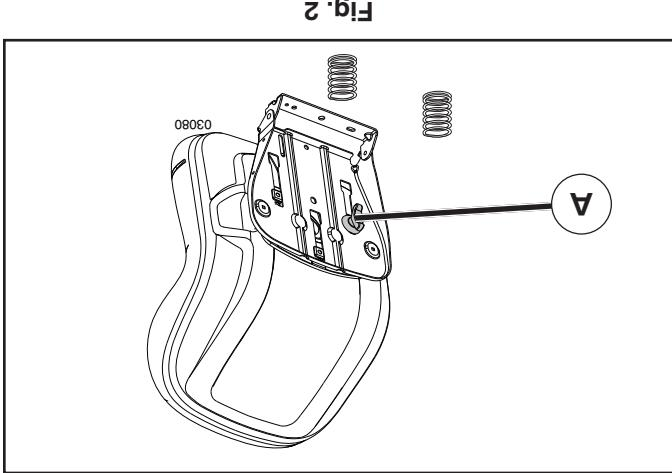

Fig. 2
- ANTES DE REMOVER EL ASIENTO (Vea Fig. 2)**